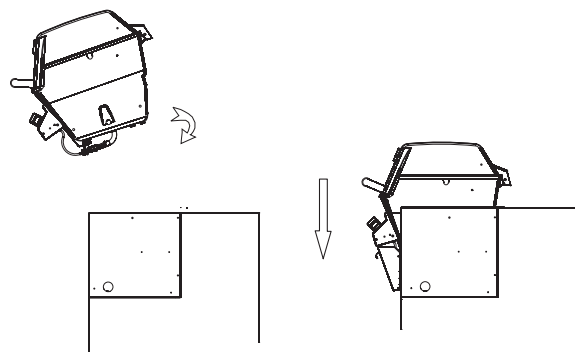

Figure 5
5. After insuring that all the contents are removed from the inside of the grill, install the grill in the BHAX2 surround by slightly tilting the grill forward and placing it on the top of the support bracket. The lid may be temporarily removed to ease installation (not shown). See Figure 5.